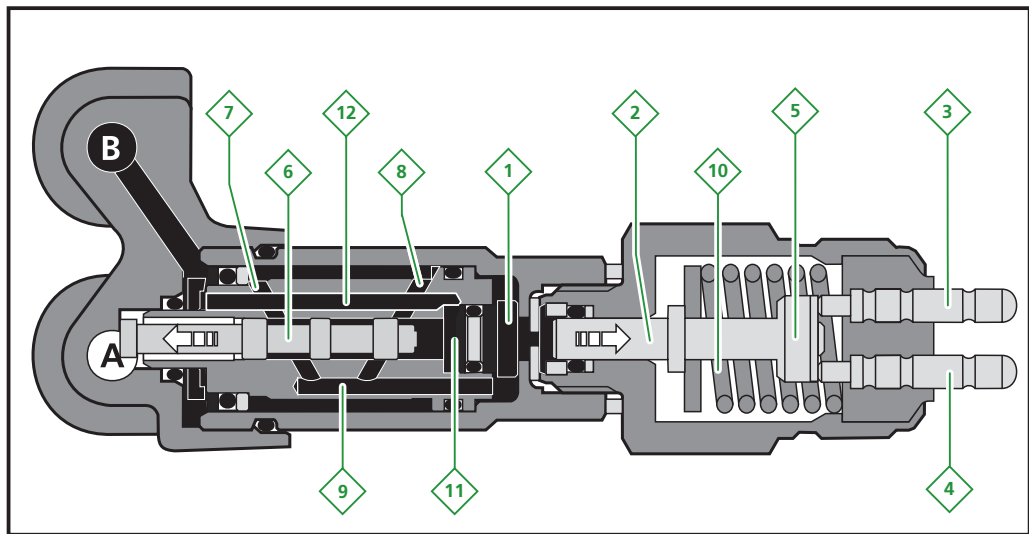

figure 3.9 Principle of operation of grease pressure switch - third phase
During pumping phase B grease is pressed into channel B (see figure 3.9). While the grease pressure is built up, chamber (11) fills with grease (through channel 12). The grease pressure pushes piston (6) to the left. Because of that the channel (8) is opened, causing the grease to flow to chamber (1) through channel (7) and channel (9).